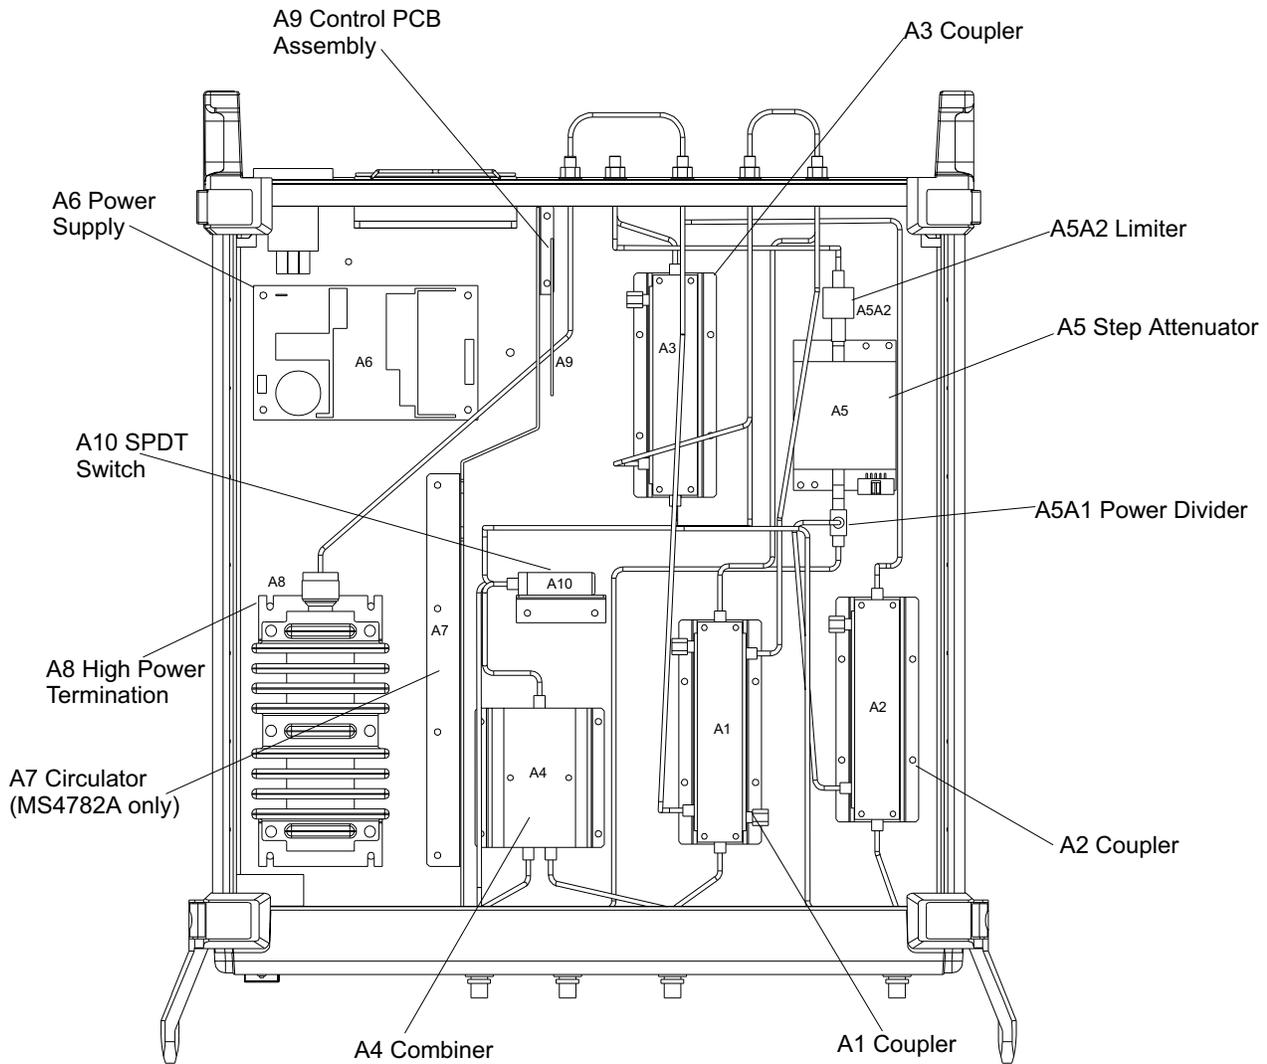

Figure 4-2. Major Assemblies Location Diagram (Top View)
- Step 7.** If Test A or Test B fails, replace A1 Port 1 Coupler (Figure 4-2).